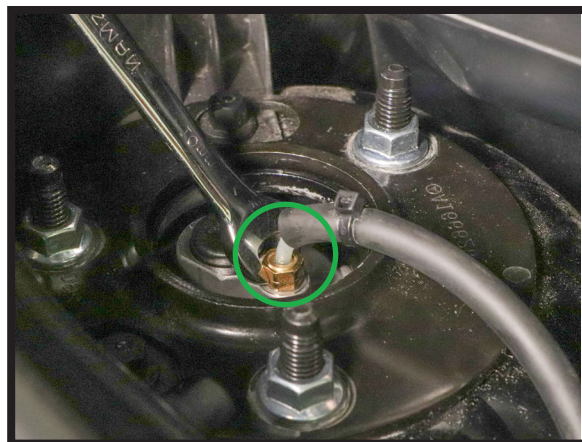

FIGURE 3
5. REMOVE THE AIR LINE FITTING. (FIGURE 3)